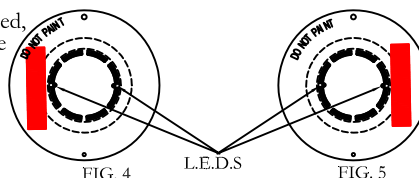

FIG. 4
With the duct housing cover removed, place the magnet (HA Part #0700-01117) on the detector as shown in Figure 4 for approximately six (6) seconds. The detector should not alarm. Place the magnet on the opposite side (Figure 5) for another six (6) seconds. The detector LEDs should illuminate and the duct housing should go into alarm. This test will verify that the detector is within its intended limits.